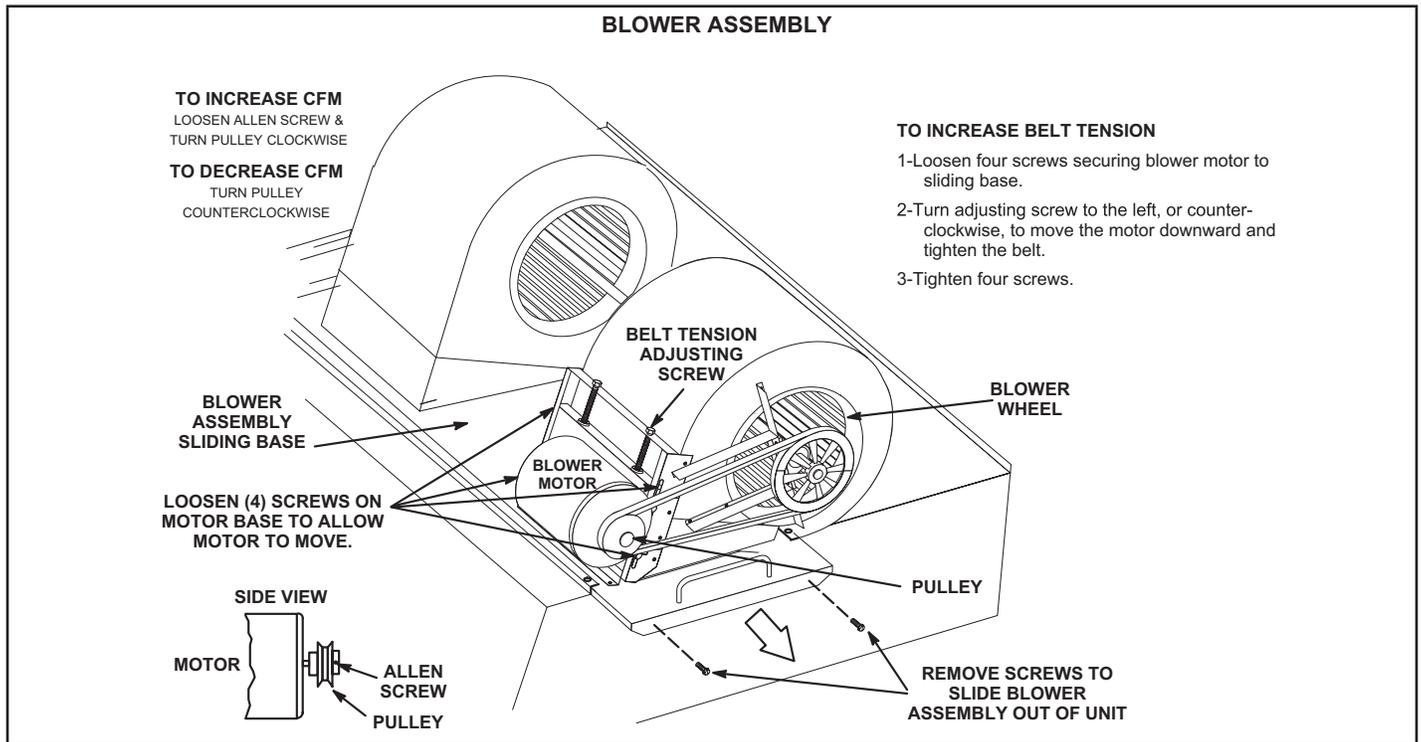

FIGURE 7
The blower compartment is located between the evaporator coil and the compressor / control section on the opposite side of the condenser coil. The blower assembly is accessed by removing the screws on either side of the sliding base. The base pulls out as shown in FIGURE 7.
The blower assembly is secured to a sliding base which allows the entire assembly to be pulled out of the unit. See figure 7.
- 5 - The blower RPM can be adjusted at the motor pulley. Loosen Allen screw and turn adjustable pulley clockwise to increase CFM. Turn counterclockwise to decrease CFM. See FIGURE 7. Tighten Allen screw after adjustment. Do not exceed minimum and maximum number of pulley turns as shown in TABLE 3.
- 1 - Loosen four screws securing blower motor to sliding base. See FIGURE 7.